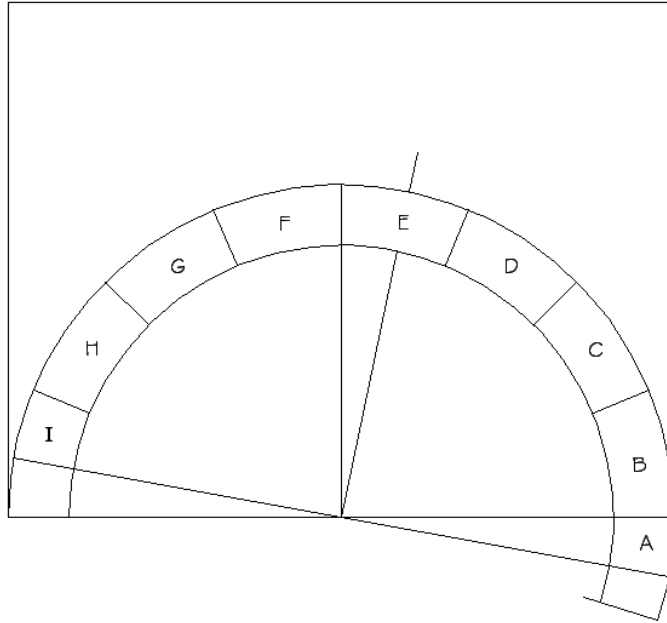

Figure 13.7
7. Yet another solution to designing an arch with an odd number of voussoirs is shown in **Figure 13.7**. Once again, you have but to bisect a half-circle into an even number of sections—in this case eight—but add one additional block under the base line as we have done (block A). By bisecting this block and carrying the line through center point x to the block opposite (block I), you will create a “new” base line, tilted though it is, which will now give you seven voussoirs, with two half-sized blocks at each end. A perpendicular to this new tilted base line will be seen to run through the keystone, now properly sited at the top—as long as you turn your design to a slight angle!